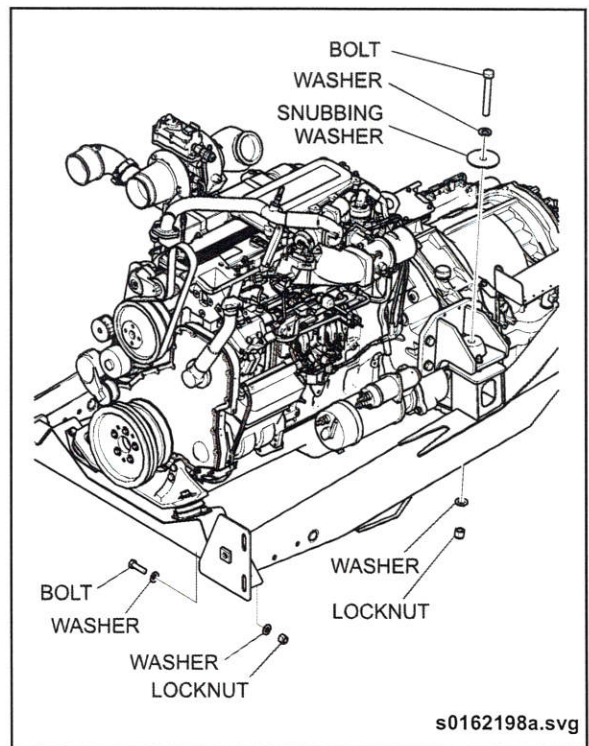

Fig. 4-4: Engine Mounts
29. Remove the 3/4" bolt, snubbing washer, flat washer, and lock nut from the rear engine mounts. See "Fig. 4-4: Engine Mounts" on page 6.